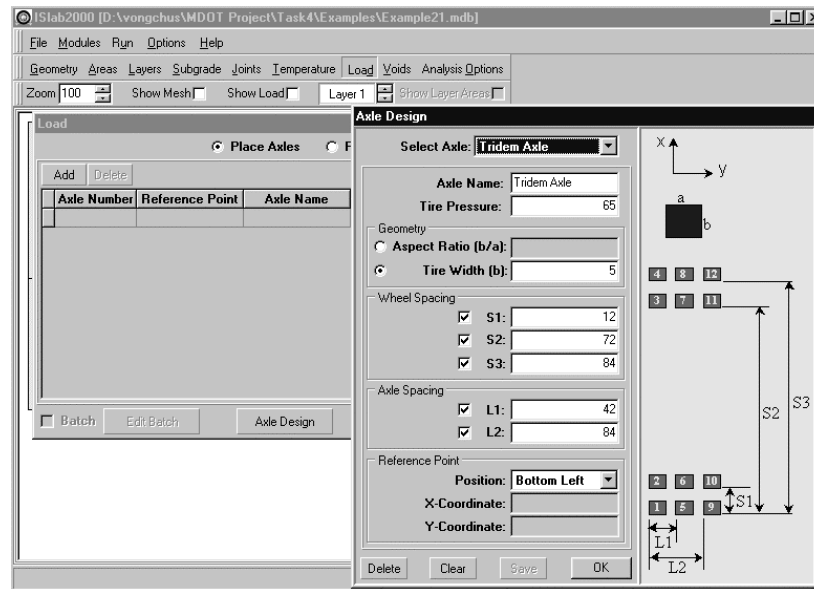

Figure E21-2: Edit Inputs for the Load Module
(see Figures E21-2 through E21-4)
- Step 2: On the load panel, click **Axle Design** to open the axle design panel (see Figure E21-2), and then enter **Tridem Axle** in the **Axle Name** field.
- Step 5: Enter wheel spacing information as shown in Figure E21-2.